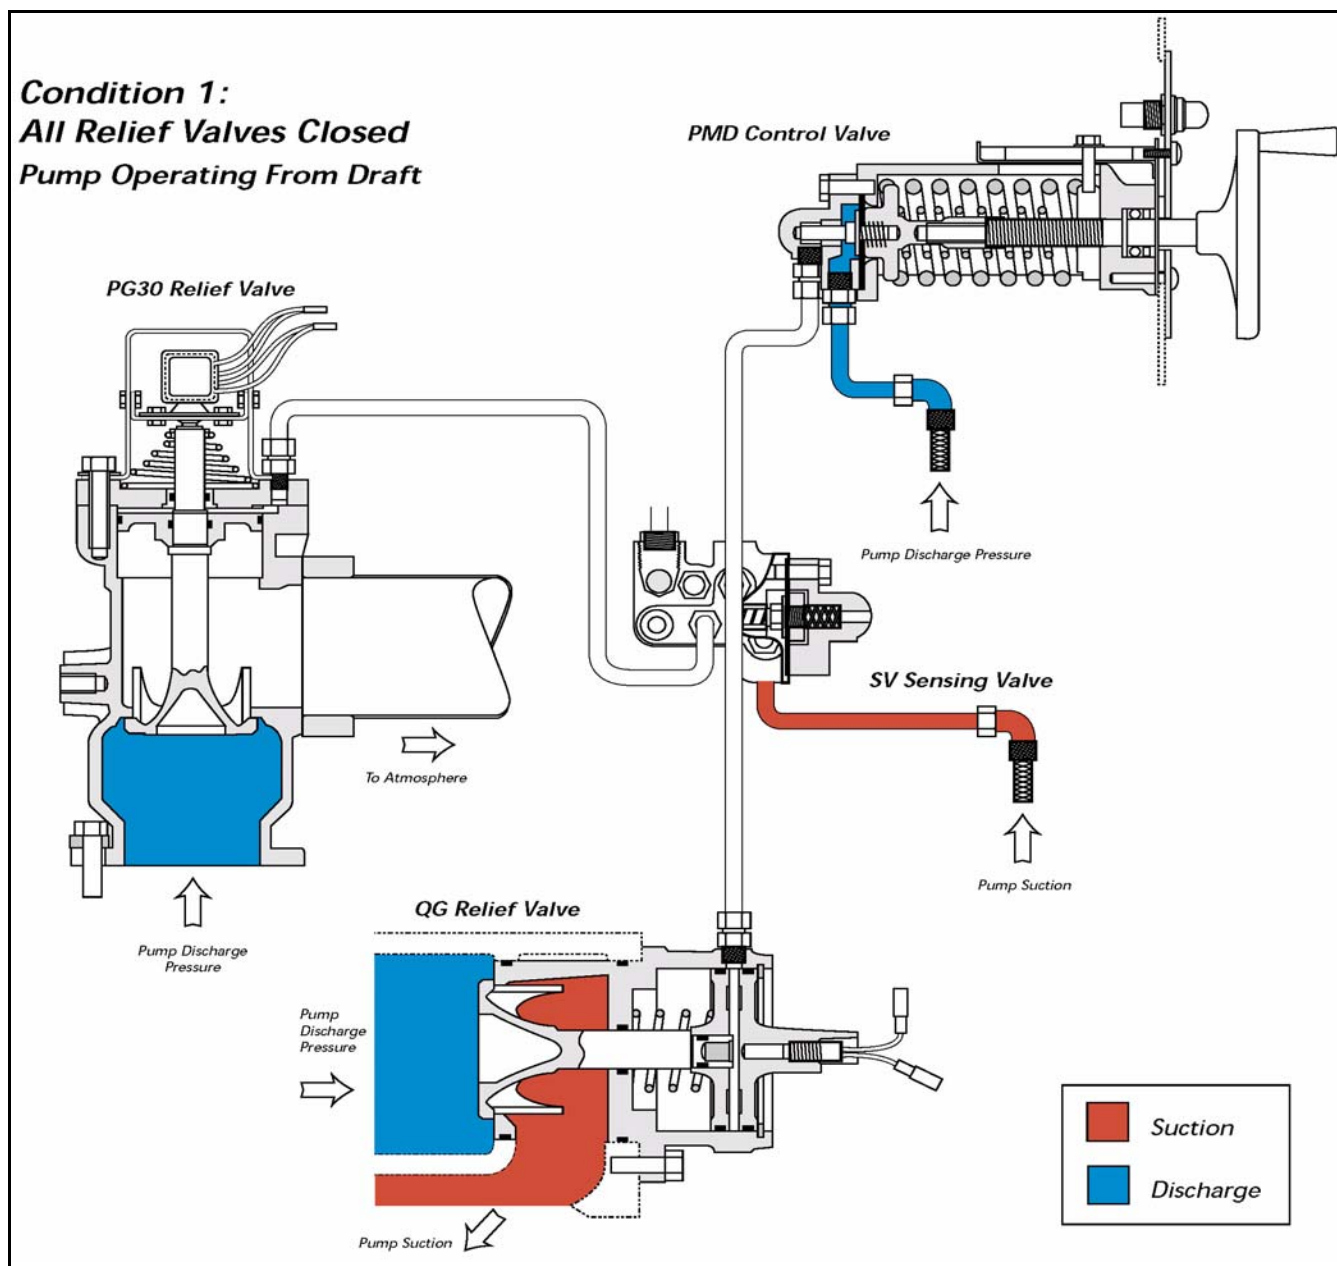

Figure 3-15: Typical TPM Relief Valve System, Condition 1
- ☐ Figure 3-15: “Typical TPM Relief Valve System, Condition 1” on page 50